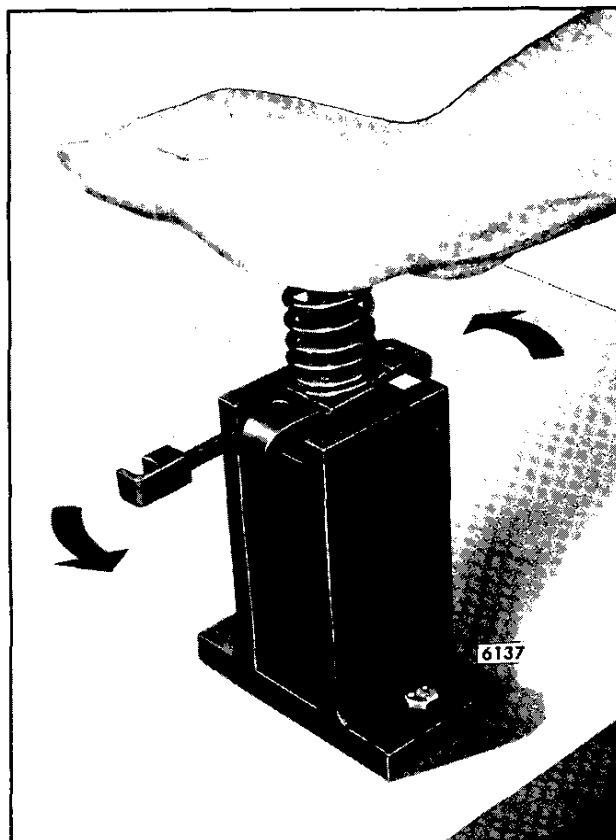

Fig. 8 - Removing Injector Follower
1. Support the injector, right side up, in holding fixture J 29136 as shown in Fig. 8.